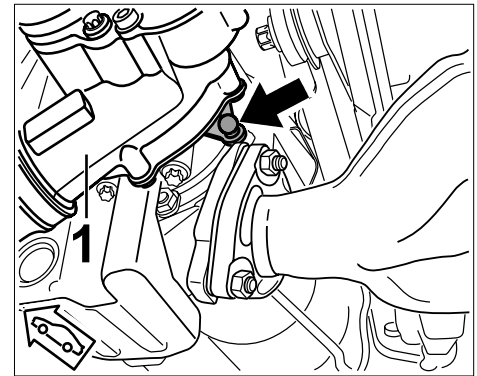

Figure 1
- 2.1 On the turbocharger on the **right** in direction of travel (⇒ *Figure 1 -item 1-*), check that the adjustment mechanism (⇒ *Figure 1 -arrow-*) can be moved freely.